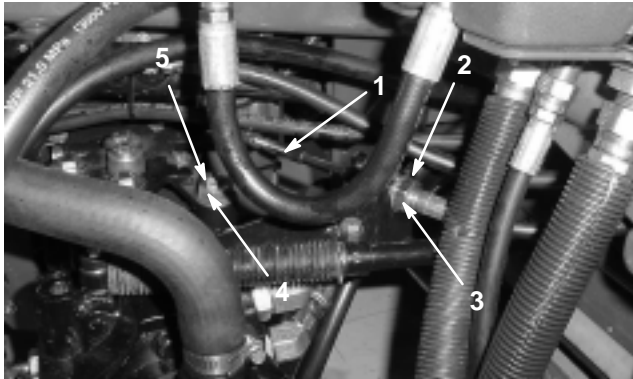

Figure 51
- A. Loosen both jam nuts securing the traction control cable to the bulkhead on the hydrostat (Fig. 51). Make sure the jam nuts are loosened equally and sufficiently to allow adjustment.
Note: Loosen the nut securing the eccentric to the top of the hydrostat (Fig. 51).
- C. Rotate the eccentric until creep does not occur in either direction. When the wheel stops rotating, tighten the nut locking the eccentric and the adjustment (Fig. 51). Verify the adjustment with the throttle in the Slow and Fast position.
- D. From each side of the bulkhead, tighten the locknuts **evenly**, securing the traction cable to the bulkhead (Fig. 51). Do not twist the cable.